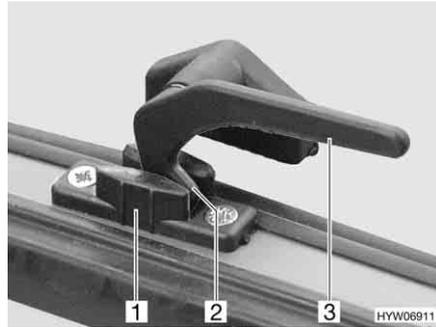

Fig. 93 Catch lever in the "continuous ventilation" position
- "Continuous ventilation" (Fig. 93)
- Turn all catch levers (Fig. 93,3) a quarter turn towards the centre of the skylight.
- Return all catch levers to their initial position. The locking catch (Fig. 93,2) has to be moved into the recess of the skylight lock (Fig. 93,1).